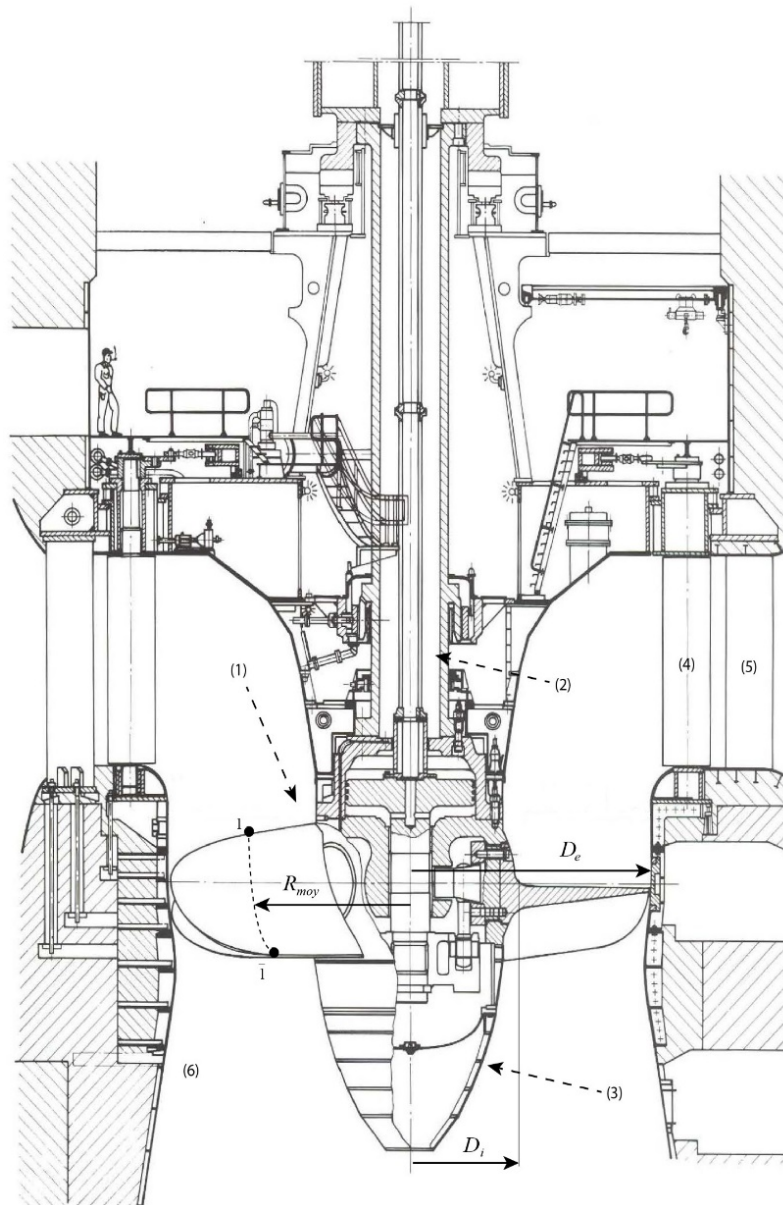

Figure 1: Kaplan turbine unit from Gezhouba power plant.
The Gezhouba power plant is located in the Hubei province, in China, where the frequency of the electrical grid is equal to $f_{grid} = 50$ Hz. It is equipped with 2 Kaplan turbines of 176 MW and 5 Kaplan turbines of 129 MW. In this problem, we will investigate the 176 MW units. A cut-view of the Kaplan unit is given in Figure 1.
1. Find the adequate name for the power plant components numbered in Figure 1: